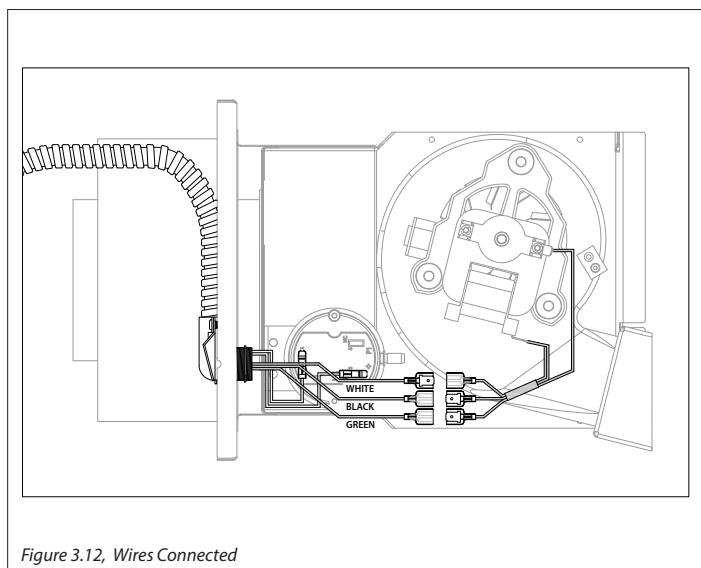

Figure 3.12, Wires Connected
7. NOTE: After all wires are connected, the wire should look like the picture in Figure 3.12.